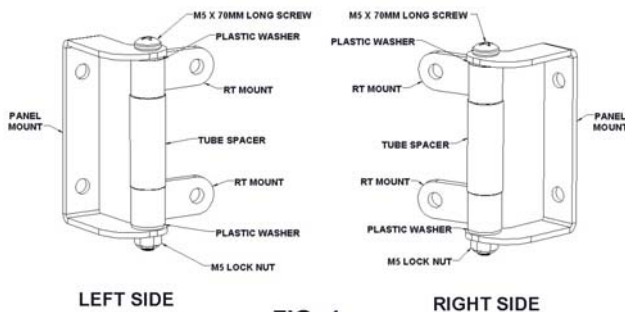

FIG. 1
1. REMOVE THE HARDWARE KIT FROM THE PACKAGE AND ASSEMBLE THE PARTS AS SHOWN IN FIG. 1 BELOW. ADJUST THE TENSION OF THE SCREW AND LOCK NUT SO THAT YOU CAN EASILY MOVE ALL OF THE MOUNTS.